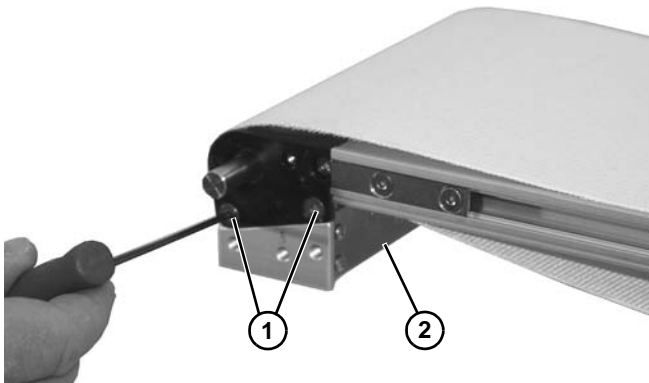

**Figure 16**
2. Loosen two screws (**Figure 16, item 1**) on both sides of conveyor.
3. Rotate tensioning screw (**Figure 16, item 2**) to lessen tension on belt (**Figure 16, item 3**).